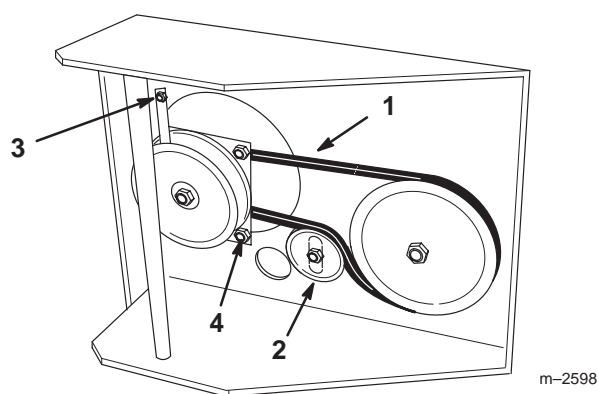

Figure 32
4. Remove left front engine mounting bolt securing clutch retainer to frame (Fig. 32). Unhook retainer from clutch and remove retainer.